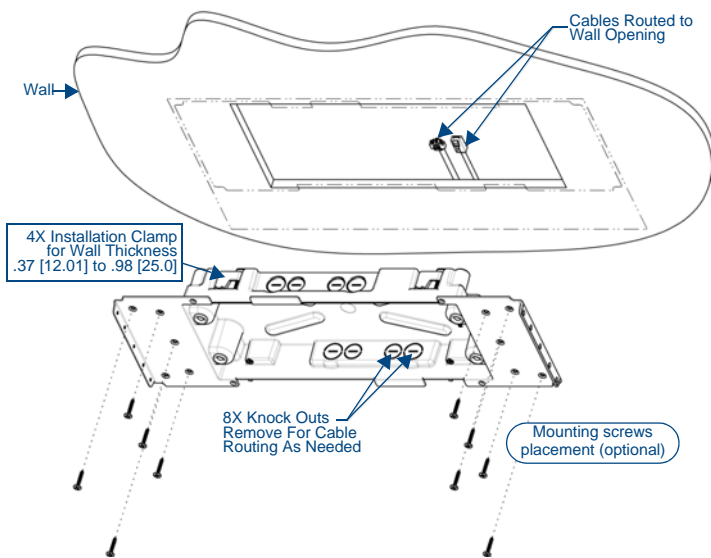

FIG. 4 MXD-2000XL-PAN Backbox installation (Landscape)
- Thread the incoming power and Ethernet wiring from their terminal locations through the surface opening (see FIG. 4 on reverse).
- For additional strength, #4 mounting screws (not included) may be secured through the mounting holes located at the left and right sides of the panel (FIG. 4).